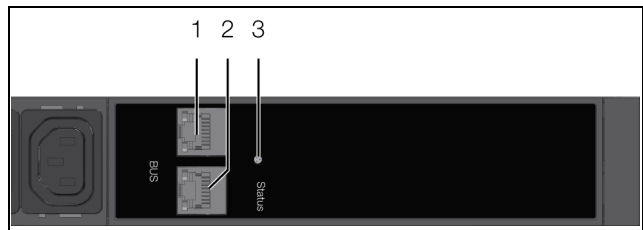

Fig. 18: Display elements and connections of the slave PDU managed
Once connected, the multi-LED for the status display shows a steady green light (fig. 18, item 3). The LEDs of the CAN bus connections (fig. 18, items 1, 2) will flash green or red.
- Use a CAN bus connection cable to connect the slave PDU to a CAN bus interface on the CMC III Processing Unit or the neighbouring component on the CAN bus (fig. 18, item 1).
- If necessary, connect another component (e.g. another sensor type) to the second, free CAN bus interface of the slave PDU managed (fig. 18, item 2).